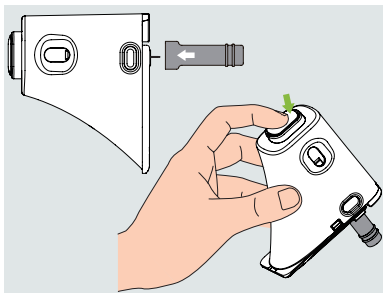

Figure 19
6. If the needle remains in the inserter, place the protective sleeve back onto the needle hub. Firmly push the top of the inserter to eject the needle hub (Fig. 19) and dispose of it properly.